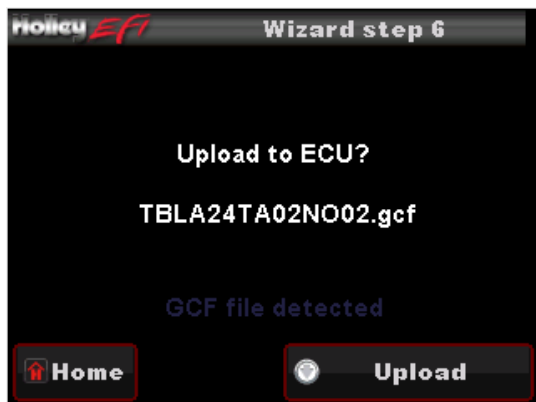

Figure 58
12. After selecting injector type, your calibration will be created (Figure 58). Press the “Upload” button to send the calibration to the ECU. You will then see a screen showing “Uploading” (Figure 59). Finally you will see a screen indicating the file is uploaded. Cycle the ignition switch for the calibration to take affect (Figure 60). Proceed to section 21.0.